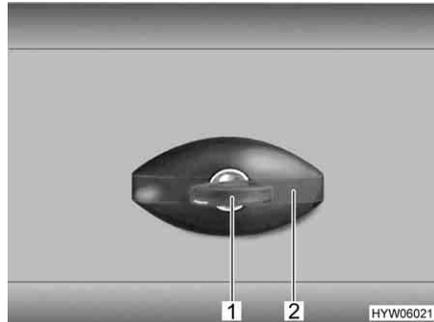

Fig. 29 Flap lock, elliptical-shaped, closed
- Insert key into locking cylinder (Fig. 29,1) and turn a quarter turn in an anti-clockwise direction. The lock handle (Fig. 29,2) snaps out.